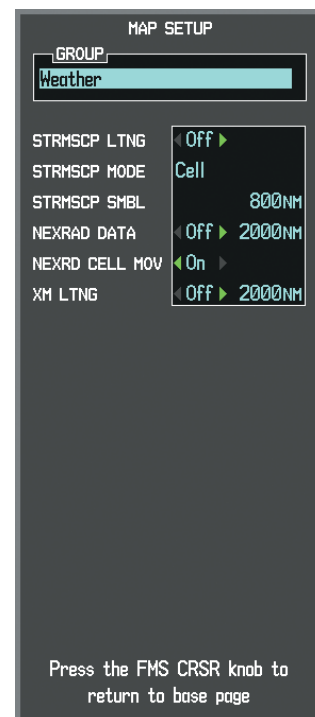

Figure 6-102 Map Setup Menu
- 3) Turn the small **FMS** Knob to display the group selection window. Turn the small **FMS** Knob to select 'Weather' (Figure 6-102), and press the **ENT** Key.
The following options are available (Figure 6-102):
- 3) Select the 'Weather' group (Figure 6-102).